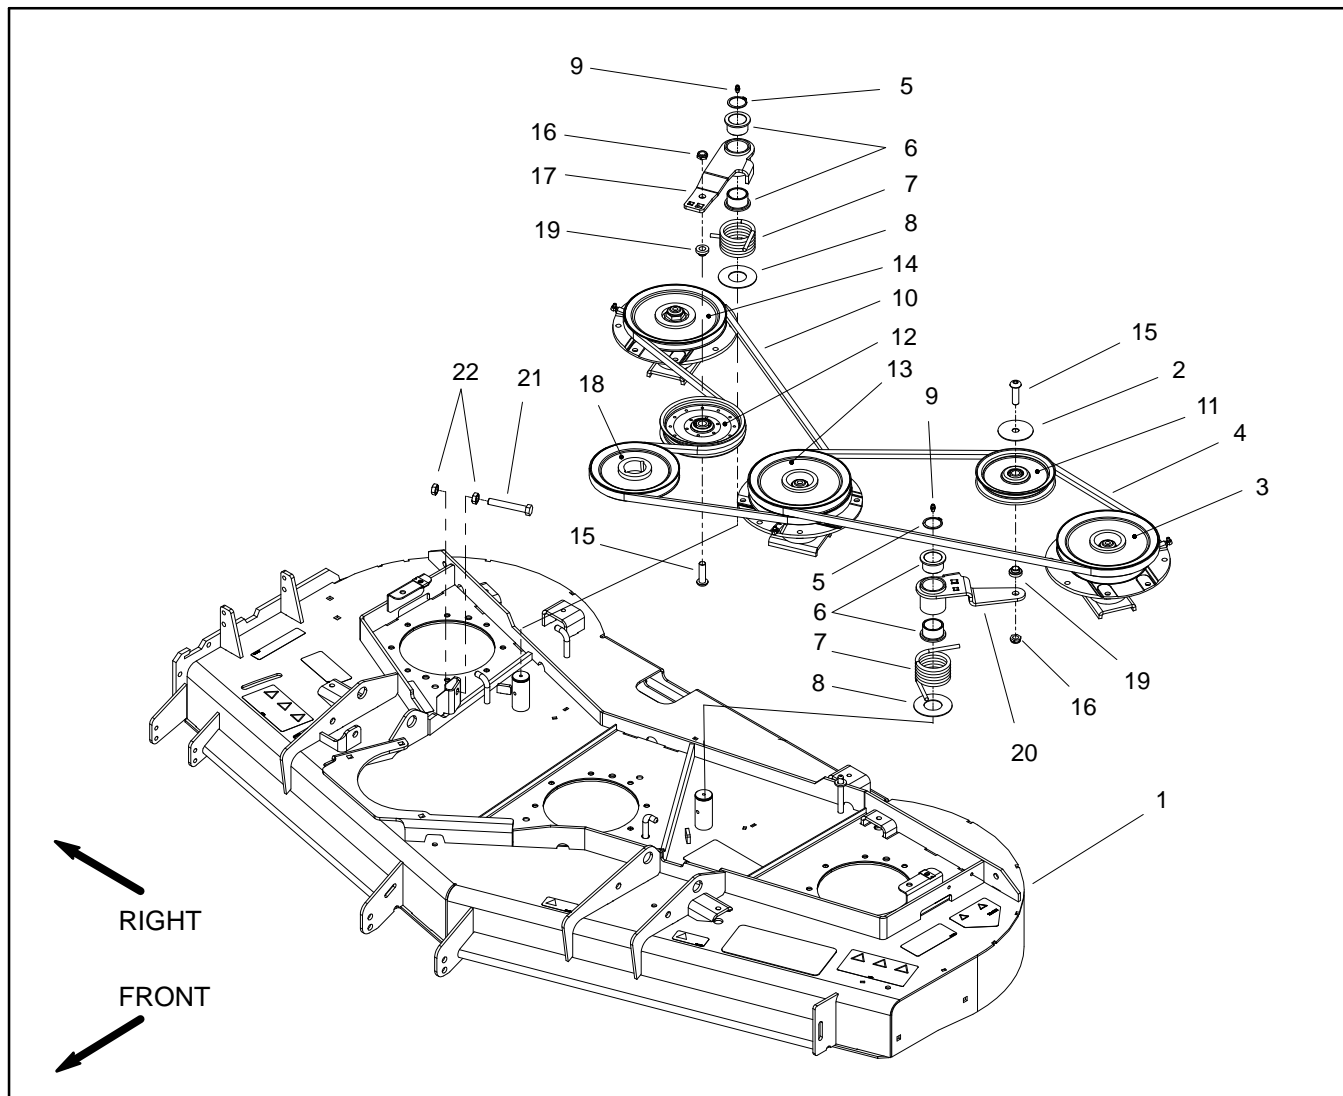

Figure 4
### Removal (Fig. 4)
4. On right side idler arm, loosen jam nuts (item 22) that secure idler stop bolt (item 21) to cutting deck to allow clearance between idler and stop bolt.
9. Remove idler components as needed using Figure 4 as a guide.
### Installation (Fig. 4)
1. Install removed idler components using Figure 4 as a guide. Secure idler arm assembly to cutting deck with snap ring.